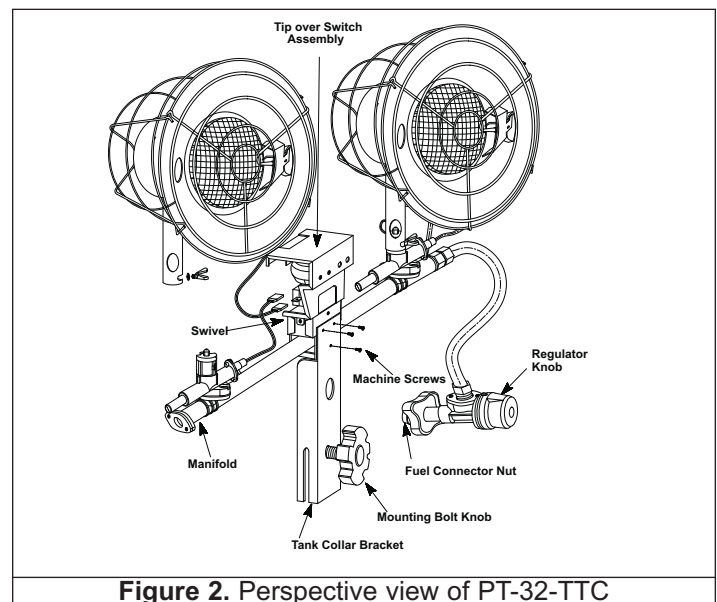

Figure 2. Perspective view of PT-32-TTC
1. Place Tank Collar Bracket on top of Center Plate. Be sure Mounting Bolt Knob is on bottom as shown in Figure 2.